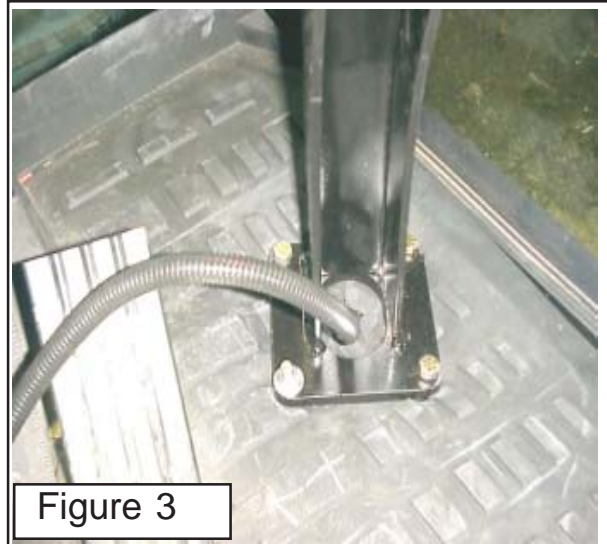
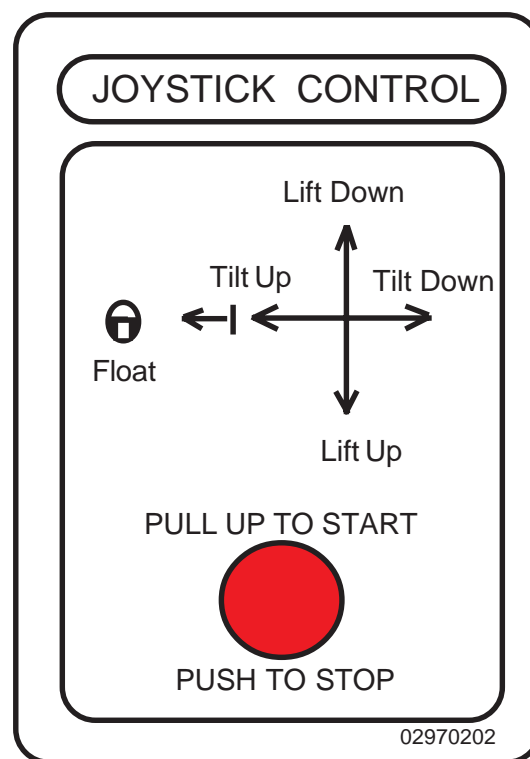
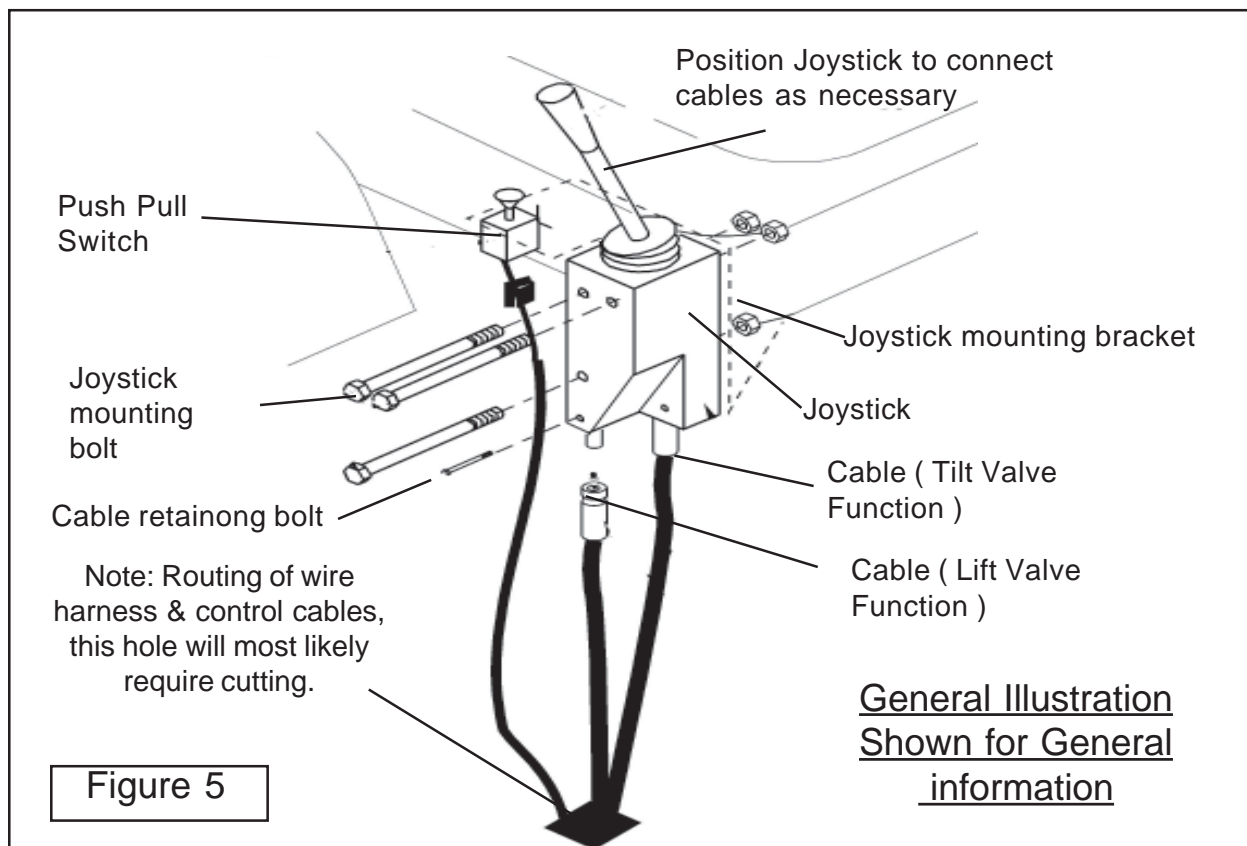

Figure 3
Figure 4
Figure 5
2. Bolt in the Joystick stand. Once the location has been determined and marked check under the cab to make certain that the other components will not be in the way of the drill or the bolts when installed. Drill the four mounting bolt holes and the hole in the center to run the electrical wiring through (See figure 3)
1. The Joystick and Motor Control operation Decal will need to be installed in the cab of the tractor. This is a transparent decal that shows the direction of movement of joystick in relation to the function that is activated. Install this decal where it is easily in view by the operator but where it will not interfere with his line of sight of his environment (See Figure 4)
1. Control Cable & Wire Harness Route through Cab Floor. The wire harness and the control cables will be inserted through the cab floor in the same hole (See Figure 3). It is best to mark the cables as to which is which (Lift or Tilt), see Figure 5 for which cable connects to where on joystick and control valve section for which cable is connected to where at the valve. These cables must be connected correctly so the joystick will operate as the decal shows (See Figure 4)
CONTROL CABLE TO JOYSTICK CONNECTION: (See Figure 5, 6 & 7))
3. Install Push / Pull Switch & Switch Mounting Bracket. The push pull switch bracket will bolt to the side panel in the cab. The exact location can vary as long as it is mounted in a convenient location for operator. Alamo industrial recommends mounting bracket as shown. The Switch will mount to bracket. Plug the wire harness plug to switch (See Figure 5 & 6).
2. Run Hoses Along Side RH Frame Rail. The hoses rub up and over under beam and back along the RH side of Tractor Frame. Install hoses through the sleeving material furnished (See Figure 3). Hoses will be run through a bolt hose ring (See Figure 4). Hoses will then be connected to the tank and pump as shown (See Figure 5)